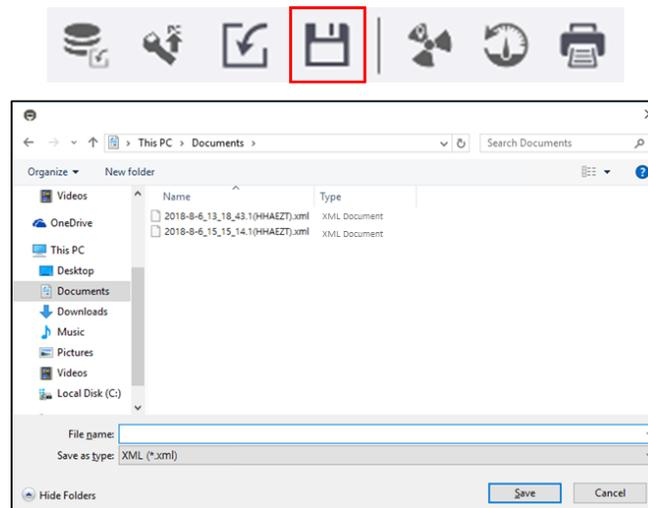

Figure 7.8.6. Save as XML File Example
2. Click the disk icon  in the lower left corner of the screen. The directory screen will appear. (figure 7.8.6)